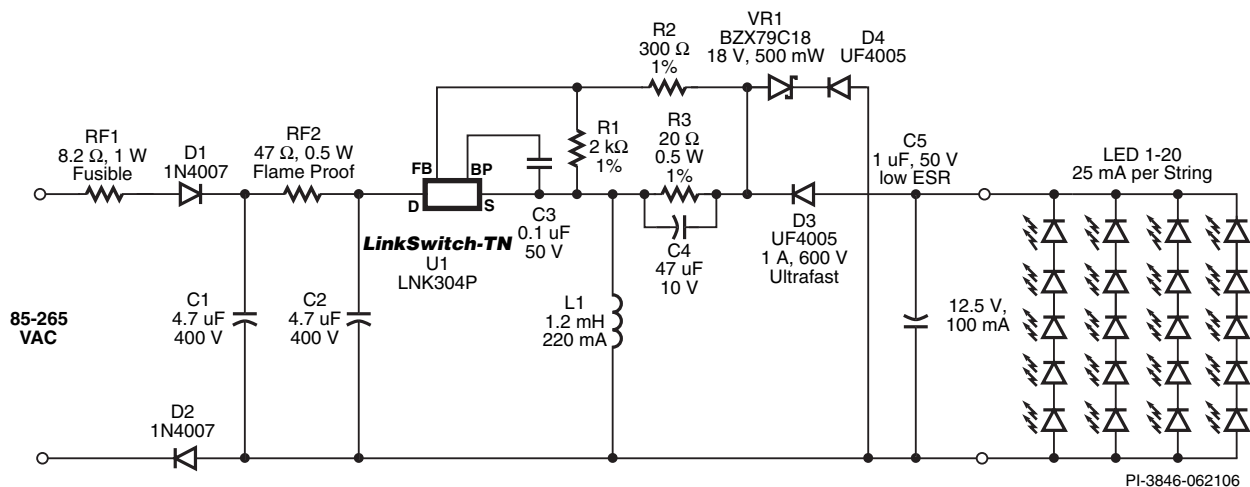

Figure 1. Schematic of a 1.25 W, 12.5 V, 100 mA constant current LED Driver, Using a Non-Isolated Buck-Boost Topology.
Using the Buck-Boost topology, the circuit shown in Figure 1 generates a non-isolated constant current (CC) output for driving LEDs. Typical uses include night-lights, neon sign replacements, emergency exit signs or any application utilizing LEDs for lighting.
- The circuit shown in Figure 1 has a total output current tolerance of  $\pm 12\%$  (including  $\Delta t$  of  $50\text{ }^\circ\text{C}$ ).